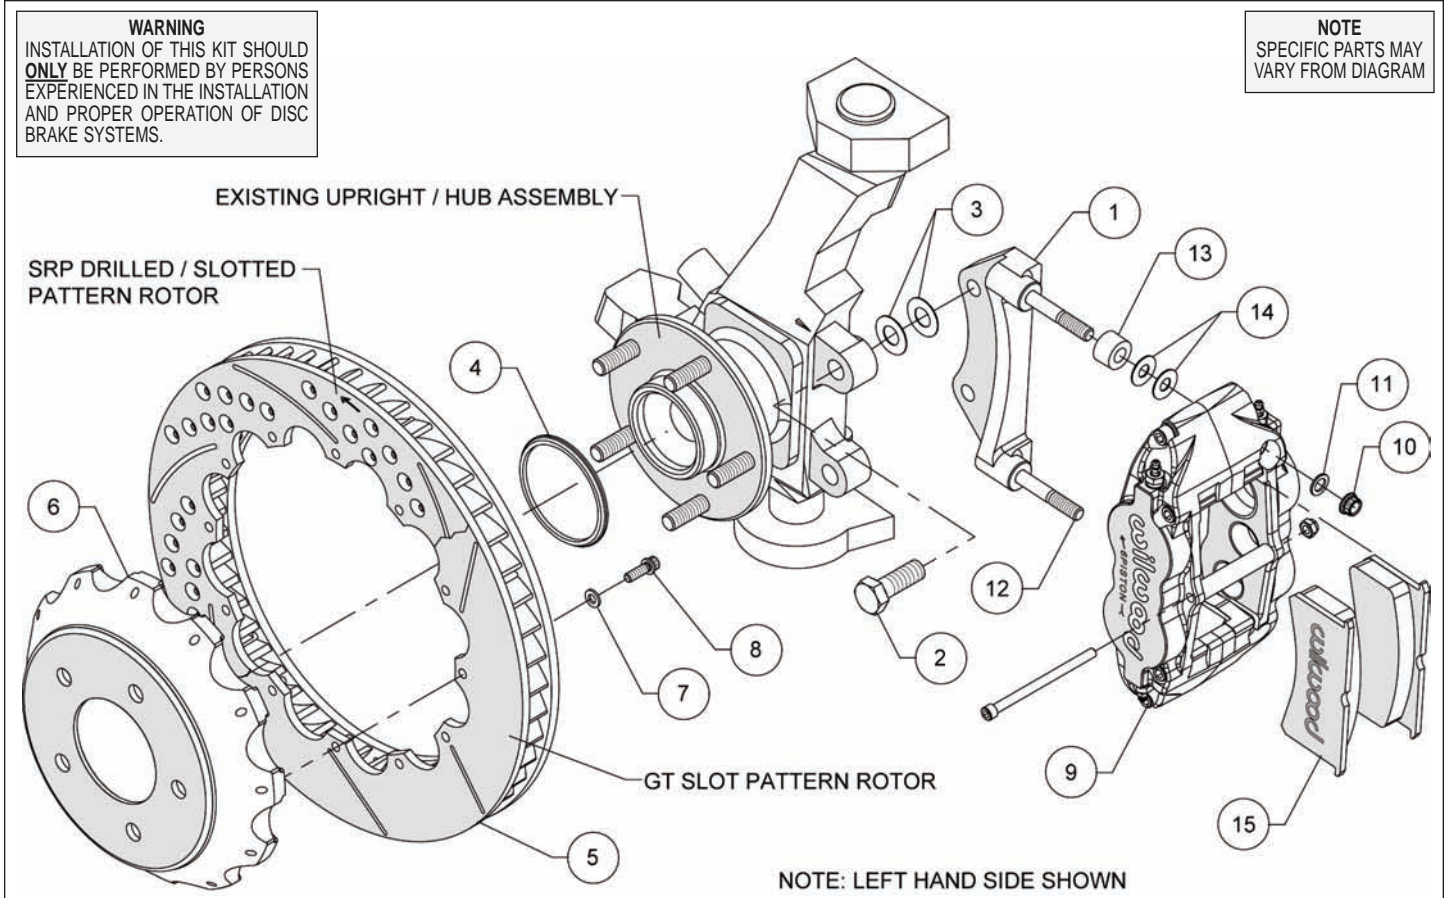
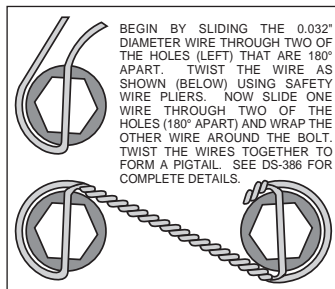

Figure 1. Typical Installation Configuration
Figure 3. Safety Wire Diagram
Assembly Instructions (numbers in parenthesis refer to the parts list and Figure 1 on the preceding pages):
- The caliper mount bracket (1) should initially be installed with clean, dry threads on the mounting bolts. Orient the bracket as shown in Figure 1 and Photo 1, and install using shim washers (3) and bolts (2). Initially place two shims (3) on each bolt between the bracket and upright, Figure 1. Temporarily tighten the mounting bolts. **NOTE:** *The bracket must fit squarely against the mount bosses on the upright.* Inspect for interference from casting irregularities, machining ridges, burrs, etc. Later, after the caliper alignment has been checked, the mount bolts will be secured using red *Loctite*[®] 271.
- Orient the rotor (5) and the hat (6) as shown in Figure 1 and Photo 2. Attach rotor to hat using bolts (8) and washers (7). Using an alternating sequence, apply red *Loctite*[®] 271 to the threads and torque bolts to 155 **in-lb**. For an added measure of security, the bolts may be safety wired using standard 0.032 inch diameter stainless steel safety wire as shown in Figure 3. Please refer to Wilwood's data sheet DS-386 (available at www.wilwood.com/Pdf/DataSheets/ds386.pdf) for complete safety wire installation instructions.
- Slide the rotor registration adapter (4) onto the axle register on the axle hub with the smaller O.D. facing outward, Photo 3. Slide the hat/rotor assembly onto the axle hub. **NOTE:** *The hat must fit flush against the axle hub flange or excessive rotor run out may result.* Install three lug nuts (finger tight) to keep the hat/rotor assembly in place while continuing with the installation.
- NOTE:** *This kit contains distinct right and left hand calipers that must be mounted in a specific direction, as described below.* Lubricate the caliper mounting studs (12) with lightweight oil. Initially place two .035" thick shims (14) and spacer (13) on each stud as shown in Figure 1 and Photo 4. Mount the caliper (9) onto the bracket (1) using lock nuts (10) and washers (11), Figure 1. Ensure that the caliper is mounted so that the largest pistons are at the rotor exit end of the caliper, in relation to the direction of rotor rotation. Temporarily tighten the lock nuts and view the rotor through the top opening of the caliper. The rotor should be centered in the caliper, Photo 5. If not, adjust by adding or subtracting shims (3) between the bracket and the upright. Always use the same amount of shims on each of the two mounting bolts. Once the caliper alignment is correct, remove the bracket mounting bolts one at a time, apply red *Loctite*[®] 271 to the threads, and torque to 75 ft-lb.